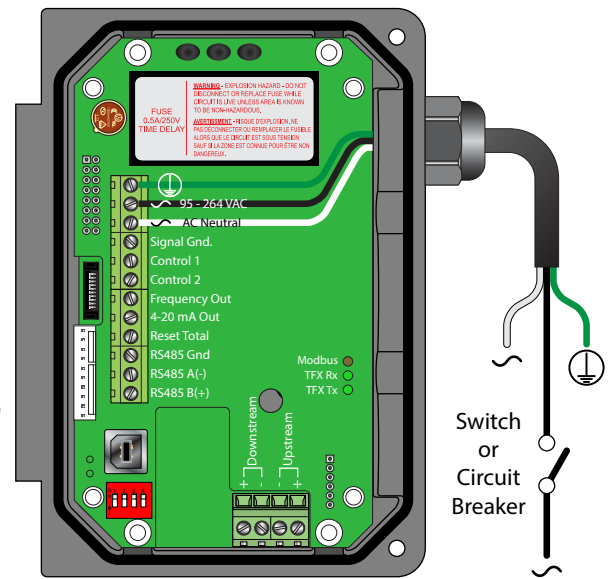
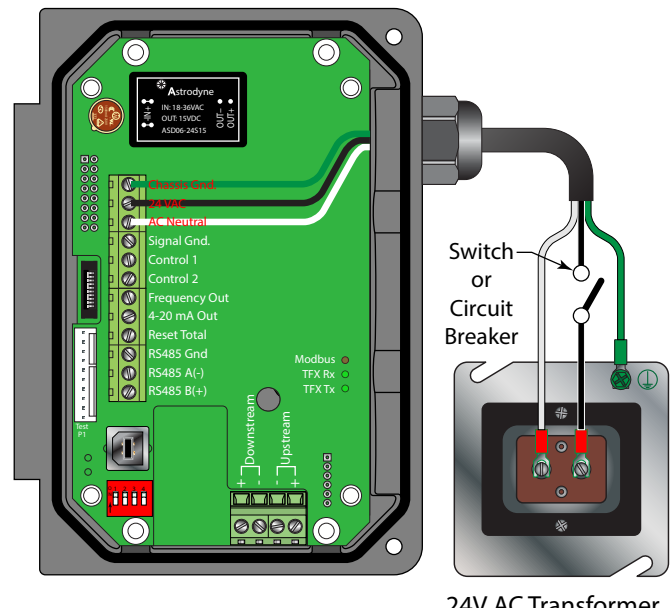

Figure 6: Line voltage AC power connections
Figure 7: Low voltage AC power connections
- 5. Connect power to the screw terminal block in the transmitter using the conduit hole on the right side of the enclosure. See *Figure 6* and *Figure 7*. Use wiring practices that conform to local and national codes such as The National Electrical Code Handbook in the U.S.
Connect 95...264V AC, AC neutral and chassis ground to the terminals shown in *Figure 6*. Do not operate without an earth (chassis) ground connection.
Connect 20...28V AC, AC neutral and chassis ground to the terminals shown in *Figure 7*.